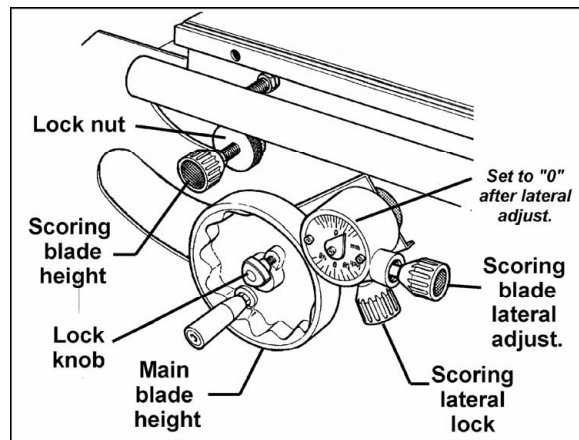

Figure 22
The controls for blade setting are shown in Figures 22 and 23.
1. Adjust the height of the main blade with the handwheel on the side of the machine (Figure 22). One rotation of the handwheel raises or lowers the blade by 3/16".
(Figures 22 & 23)